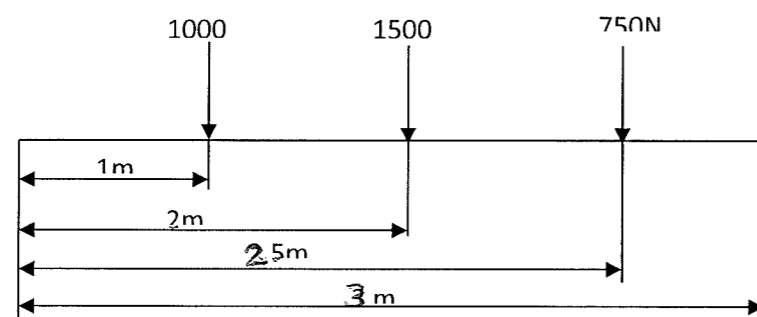
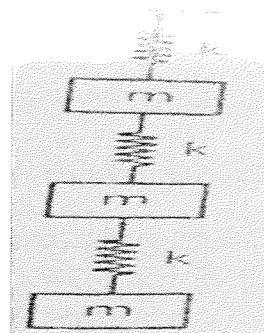

Fig.4
Fig.5
6. a) A shaft of 50 mm diameter and 3m long is supported at the ends and carries 3 weights 1000N, 1500N, 750N at 1m, 2m, 2.5m from the left support as shown in Fig.4. Taking $E=200\text{Gpa}$. Find the frequency of transverse Vibrations using **Dunkerley's method**.
b) Using **Stodola** method, determine the fundamental mode of vibration of the system as shown in Fig.4 Given $m=2$. $K=20$. Fig 5